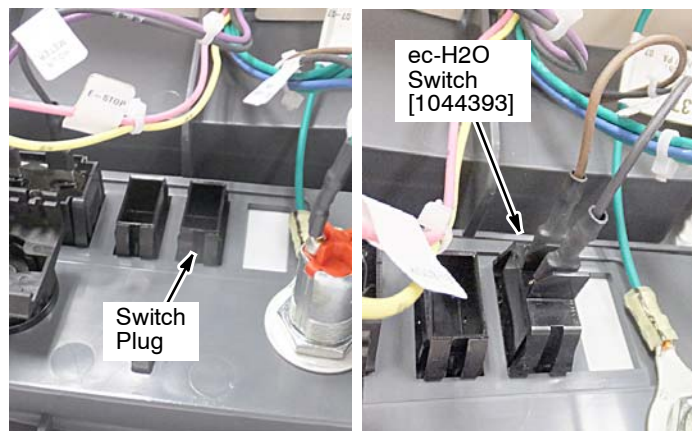

Fig. 11
- Remove the switch plug from console and install the ec-H2O switch in the orientation as shown. Connect the factory installed wires, black/2 and brown/13H, to switch as shown (Figure 11).